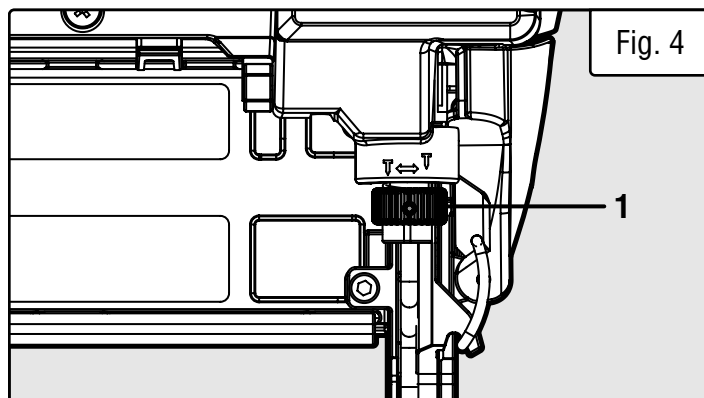

Fig. 4
1. To decrease the depth of the nail, turn the depth adjustment wheel (Fig. 4 - 1) to the right.
2. To increase the depth of the nail, turn the depth adjustment wheel (Fig. 4 - 1) to the left.